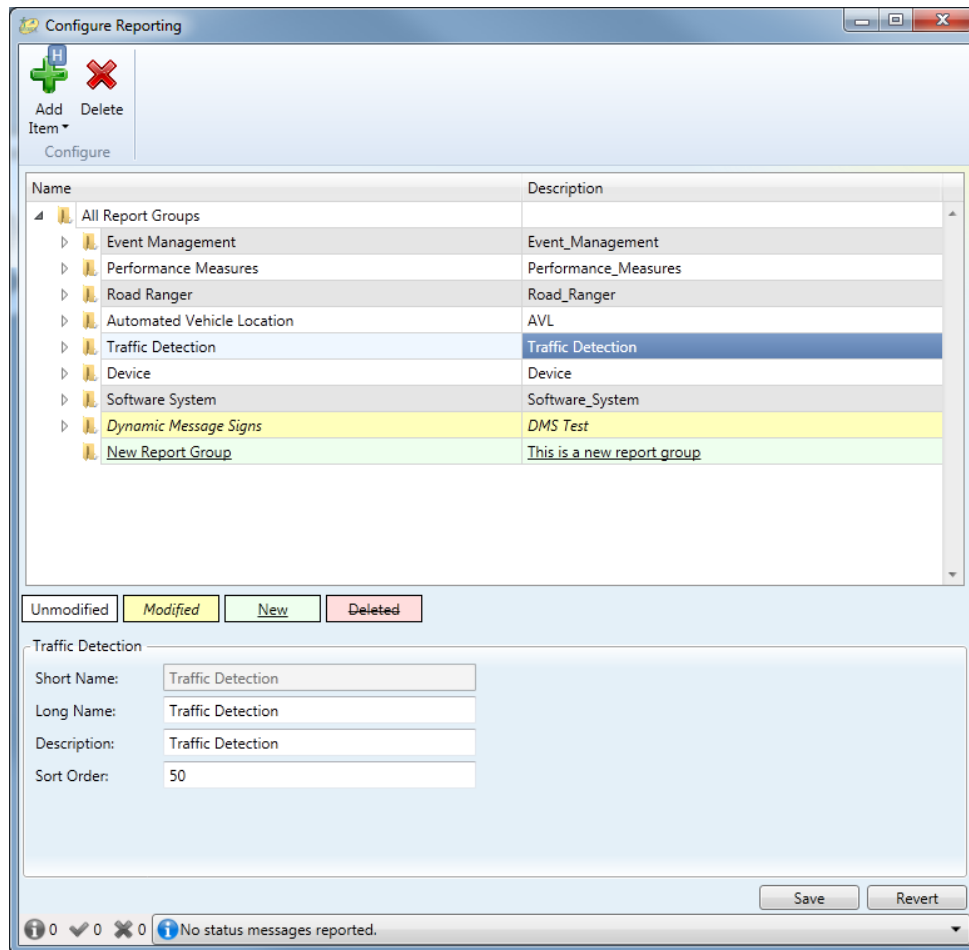

Figure 4-108– Editing a Report Group
- The system administrator may edit the report group by selecting a report group and editing the desired fields. Figure 4-108 shows how the report will appear (yellow) after